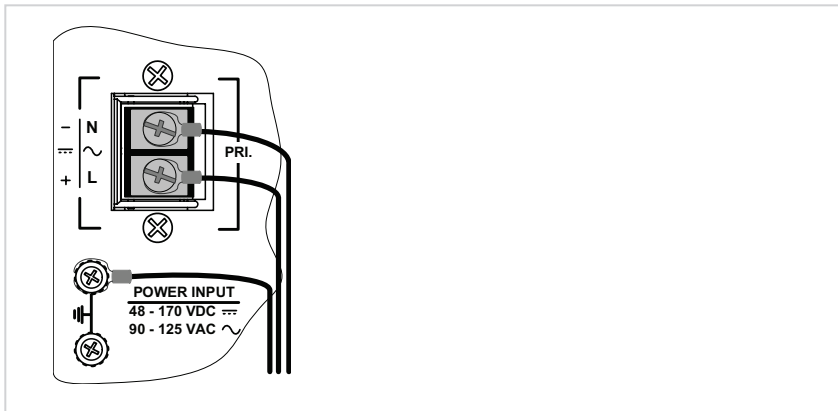

Figure 5: Primary Power Connection
To provide power to the industrial switch via the primary TB, view Figure 5, and then do the following:
2. Loosen the grounding screw and then connect the power source functional-ground lead to the ground screw, as shown in Figure 5. Tighten the screw to secure.
3. Loosen the TB screw marked “-” and then connect the power source neutral or (-) negative lead to the TB negative terminal, as shown in Figure 5. Tighten the screw to secure.
4. Loosen the TB screw marked “+” and then connect the power source line phase or positive (+) lead to the TB positive terminal, as shown in Figure 5. Tighten the screw to secure.